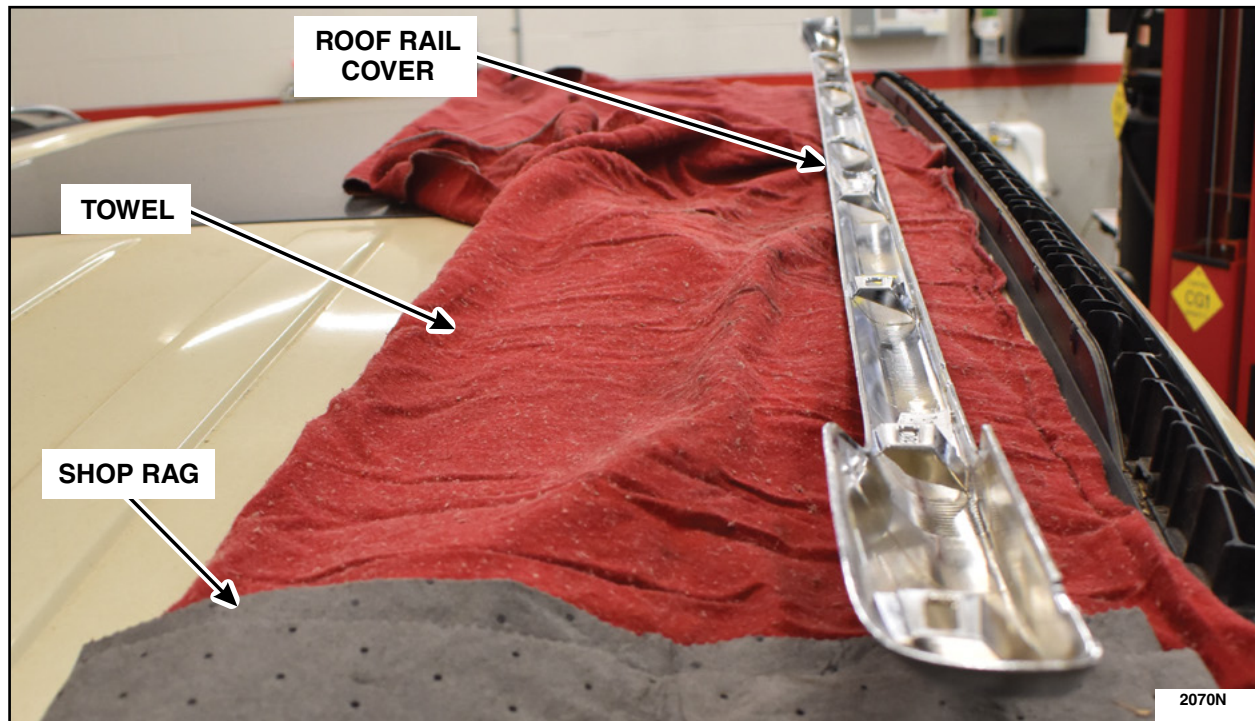

FIGURE 9
9. Place a towel and a rag on the roof of the vehicle. Place the roof rail cover on the towel. See Figure 9.